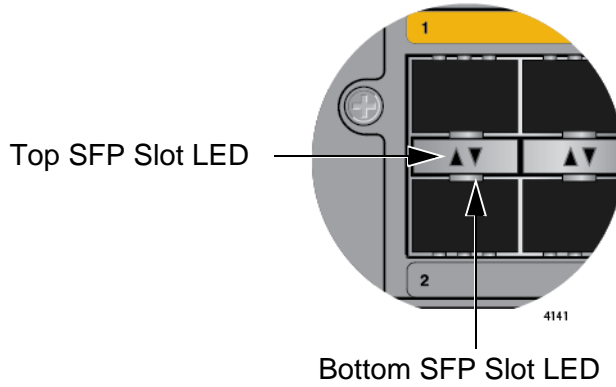

Figure 24. Port LEDs for the SFP Slots on the AT-SBx81XLEM Line Card
**LEDs** Each SFP slot on the AT-SBx81XLEM Line Card has one LED. The LED is shown in Figure 24 on page 49 and described in Table 12 on page 49.